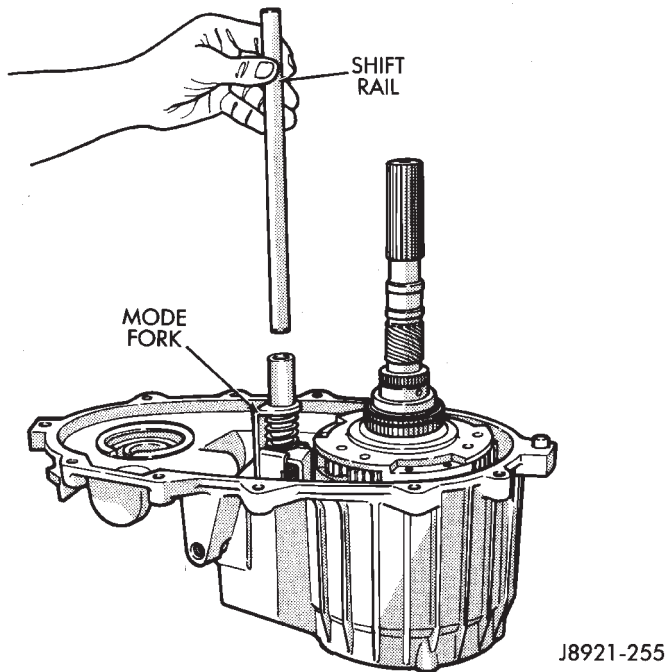

Fig. 15 Shift Rail Removal
(26) Remove shift rail by pulling it straight up and out of fork (Fig. 15).